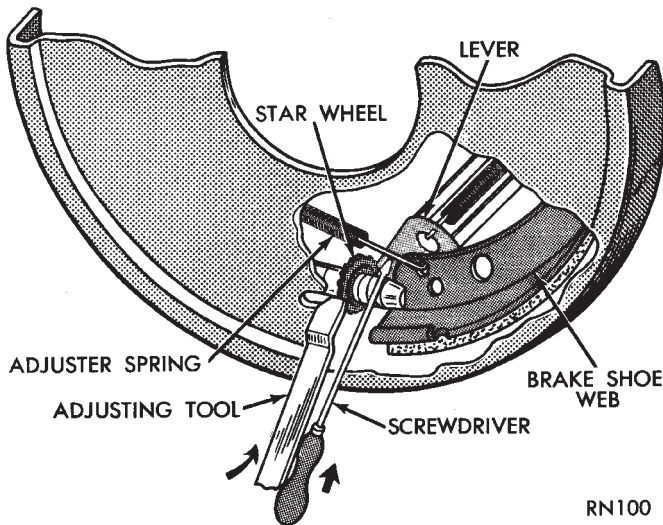

Fig. 5 Brake Drum Adjustment With Tool C-3784
(4) Insert Brake Adjuster, Special Tool C-3784, (Fig. 5) or equivalent through the adjusting hole in support plate and against star wheel of adjusting screw. Move handle of tool upward until a slight drag is felt when the road wheel is rotated.
(5) Insert a thin screwdriver or piece of welding rod into brake adjusting hole (Fig. 5). Push adjusting lever out of engagement with star wheel. **Care should be taken so as not to bend adjusting le-**